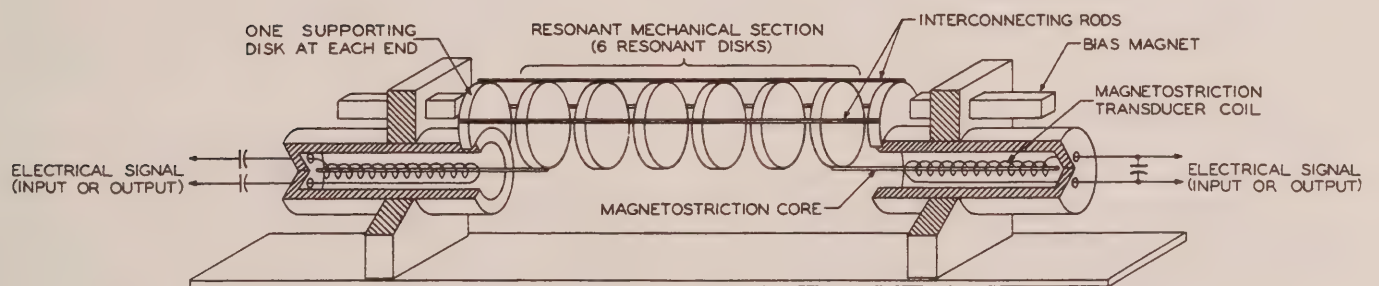

Figure 4-6. FL101 Mechanical Filter, Functional Diagram
(3) FL101 MECHANICAL FILTER. A functional diagram of the Collins FL101 Mechanical Filter is shown in figure 4-6.